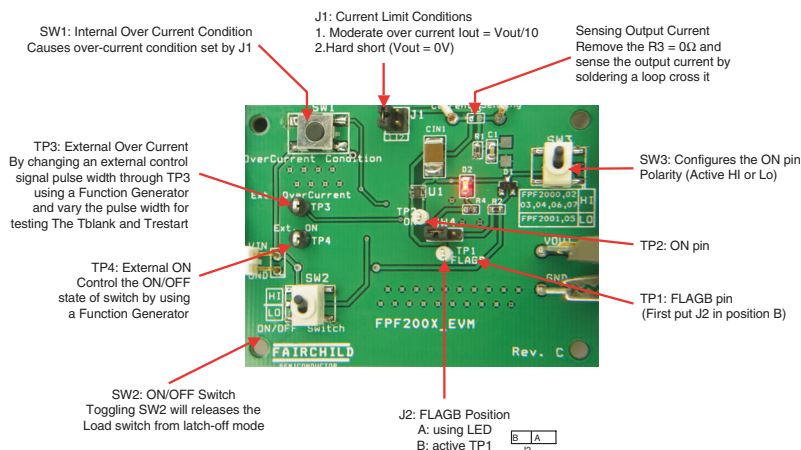

Figure 1. FPF200X Evaluation Module Board
- Moderate over-current: where the output is pulled down by a 10Ω resistor to ground (set J1 as shown in Figure 1)
- Hard short: where the output is pulled down directly to ground (set J1 as shown in Figure 1)
The status of the FLAGB pin can be monitored through TP1 either by probing it or by lighting a small LED in current limit events. (J2 needs to be set as shown in figure1)